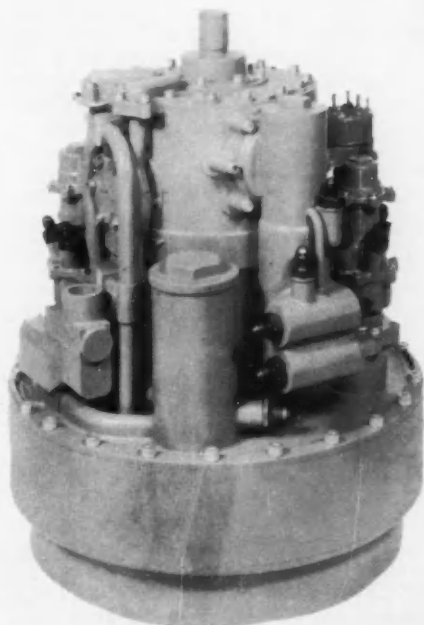

Fig. 2—Mockup of Sundstrand hydromechanical constant-speed drive.
**T**WO CONSTANT-SPEED DRIVES are being developed under the Air Force 600 F airborne electrical system program — Lycoming's mechanical traction drive (Fig. 1), and Sundstrand's hydromechanical drive (Figs. 2 and 3). Materials and fluids have been selected for the respective drives. Extensive testing has demonstrated their compatibility and performance at operating conditions.
More recent correlation studies were carried out between bench test and Powerglide test with air injection. A good reference fluid, supplied by General Motors Research, was used in both tests. Fig. 2 shows the filter papers from the two tests. The papers are rated on a standard demerit scale where 0 indicates no sludge particles and 10 represents so much sludge that the sample was unfilterable. In the bench test the break point was 192 hr; in the transmission the fluid was good for 192 hr but broke at 200. Inspection of the low and drive valve body at this point showed trace sludge and light varnish formation. Thus, the bench test predicted the break point as specified in the procedure for the Powerglide test with air injection.